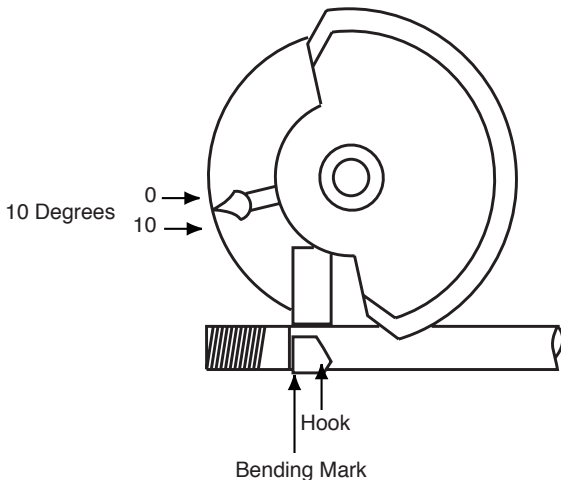

Figure 14. Bending 5 to 10 Degrees
3. Rotate the bending shoe 5 to 10 degrees below the 0 (zero) degree setting, as shown in Figure 14. Place Bending mark in line with front edge of shoe hook.
4. After marking the pipe/conduit, place it into the bender. See Figure 14. The pipe/conduit should slide over the correct size support unit, through the shoe groove and into the hook. The Bending mark should be at the front (OUTSIDE) edge of the hook. See Figure 14.
3. Rotate the bending shoe 5 to 10 degrees below the 0 degree setting. See Figure 14.